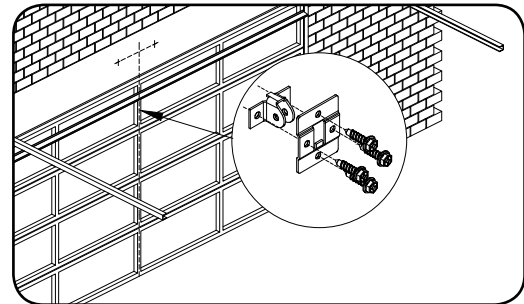

Fig. 19
The door bracket comes in two parts. The bottom plate with two mounting holes is used on its own for one piece doors. For sectional doors, the top plate is placed over the bottom plate and is fixed with four (4) screws (Fig. 19).
- Mount the door bracket, or bracket assembly, on the door's centre line one-third down the top panel (Fig. 19) using M6 or equivalent screws (not supplied),